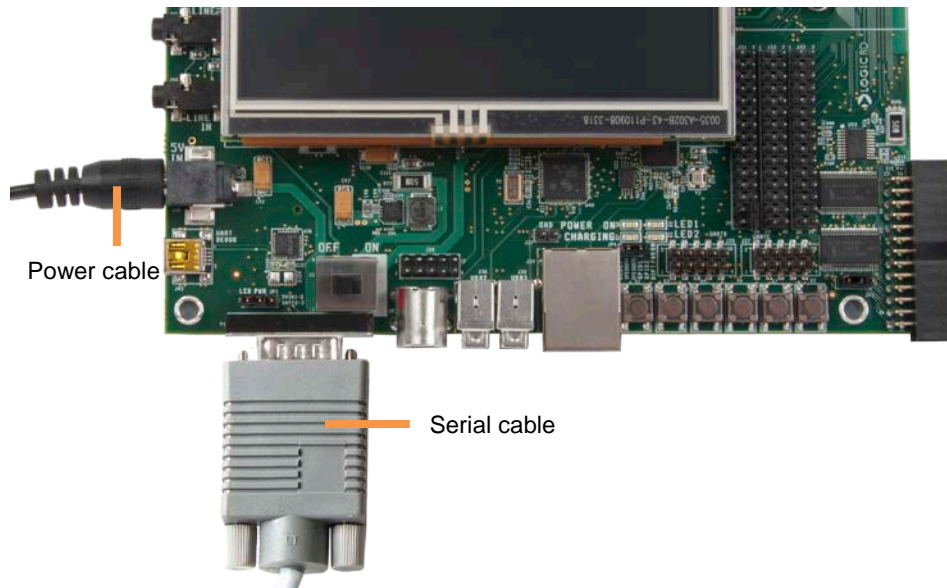

Figure 2.1: Connect Serial Cable
1. Connect the null-modem serial cable to the serial port connector on the baseboard and to an empty COM port on your host PC. See Figure 2.1.
3. Plug the power adapter into an electrical outlet and the 5V line output connector into the power-in connector on the baseboard. See Figure 2.1.